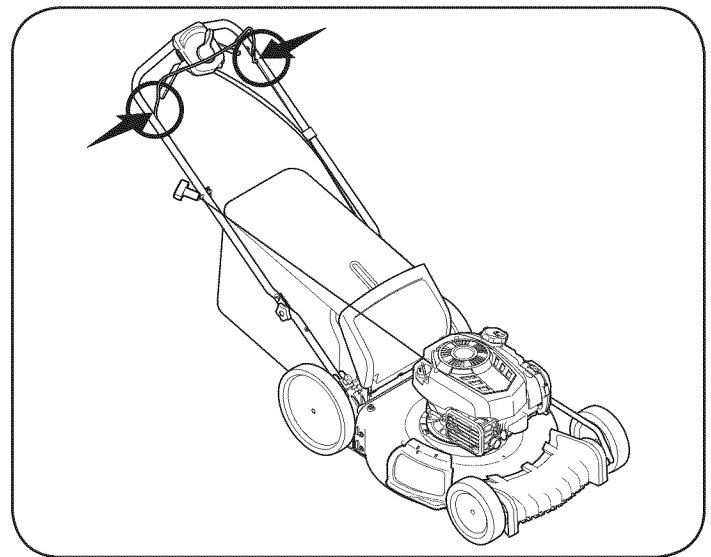

Figure 16
1. Lubricate pivot points on the blade and drive control at least once a season with light oil. These controls must operate freely in both directions. See Figure 16.